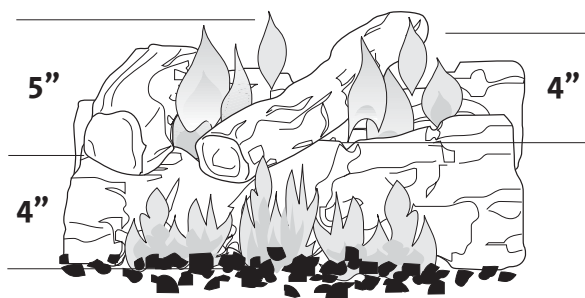

Figure 24. Flame appearance on the "high" setting after approximately 15 to 20 minutes operation.
- 3. BURNER ADJUSTMENT:** The Jøtul GF 600 DV Firelight gas stove is equipped with a variable gas control valve that provides easy adjustment of the flame height, appearance, and heat output. To adjust the flame between the HI and LOW setting, rotate the HI/LOW knob, located in the center of the valve face. **Flame height will adjust approximately 1.0" to 1.5" between the LOW and HIGH settings. See Fig. 24.**